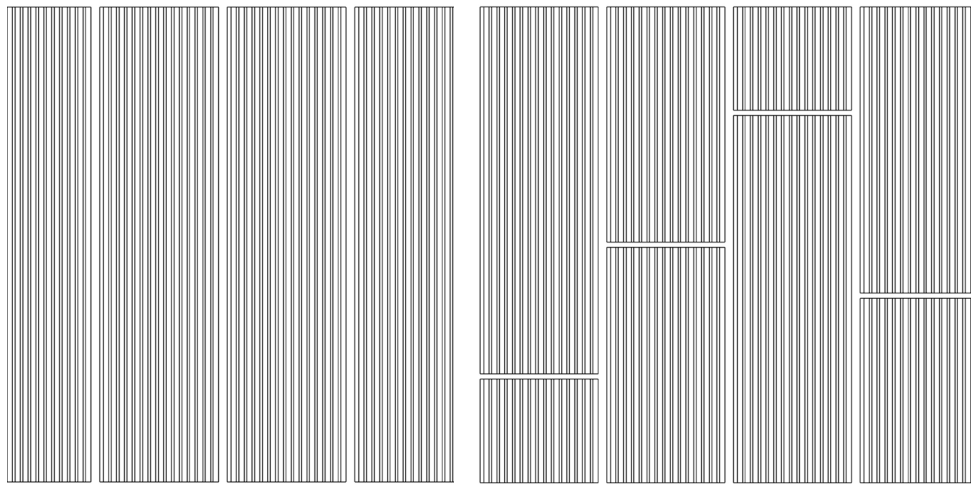

Figure 1. Installation of HARMONY panels (aligned or staggered).
- HARMONY panels installed on a wall or ceiling can be positioned in a straight line or staggered (**Fig. 1**). A wall or ceiling installation always requires a 1/2" reveal between the ends of the panels. For wall installations, the visual line is more visually appealing with a 1/2" horizontal reveal. Take this into account during the design and installation phases.
Access to the plenum space can be achieved by simply unscrewing the panels where access is required. Refer to section 4.1.1 for instructions on attaching the panel to the suspension system using screws (**Fig. 1**).